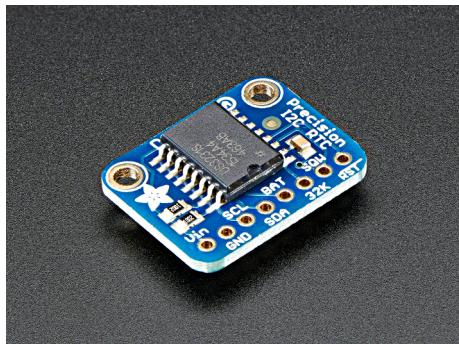

Figure 24: The DS 3231 hardware clock from Adafruit. Photo taken from www.adafruit.com.
- A DS 3231 precision hardware clock from Adafruit; this is a battery powered clock featuring temperature compensation. Fig. 24 shows this component which is about 15 €. A CR1210 battery is also needed.